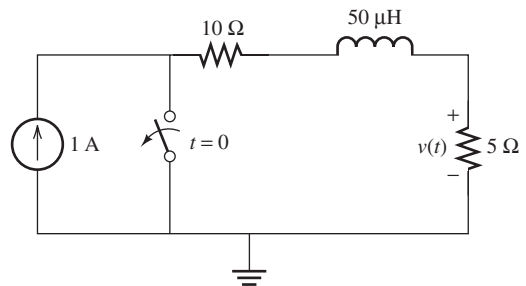

FIGURE P5.24 Circuit for Problem 5.24.
5.24 (B) Consider the circuit shown in Figure P5.24. The switch is opened at $t = 0$; find $v(0^+)$ and $v(\infty)$.